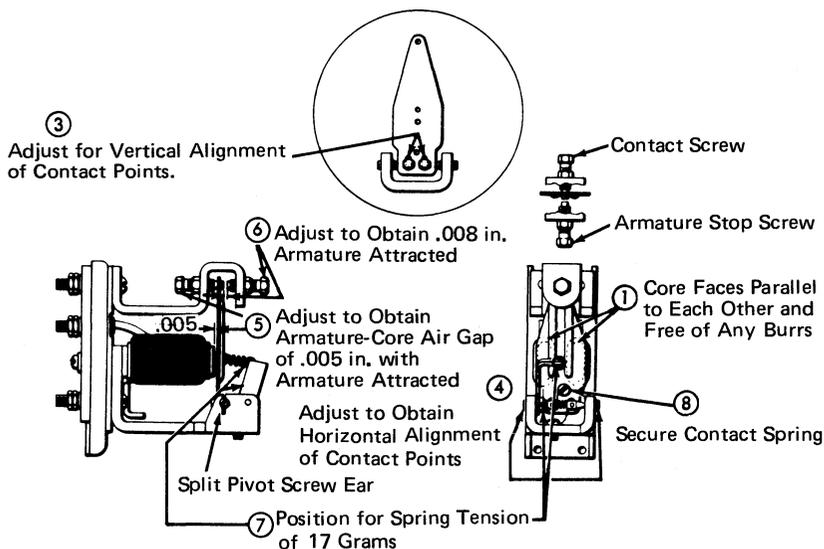

Figure 2-62. Non-Pluggable High-Speed Relay
This high-speed relay (Figure 2-62) may be considered a modern version of the slate-base relay. It meets high-speed operation requirements, while its physical dimensions permit it to be mounted in the same amount of space allotted to a duo relay.
1. Core faces (Figure 2-62) should be parallel to each other and should be free of burrs and roughness. Stone faces to make corrections.